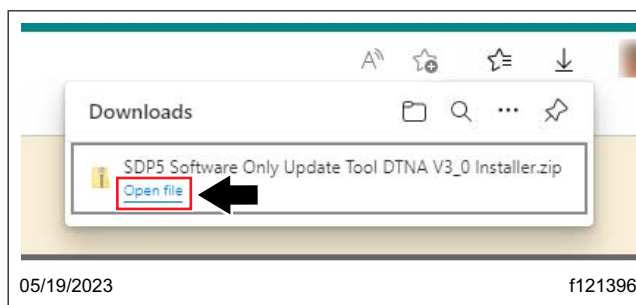

Fig. 3, Opening the Downloaded File
5. A 'Downloads' box will appear in the upper-right corner of the browser window. Once the download is complete, select 'Open file' to see the contents of the downloaded zip file within the file explorer. See Fig. 3.